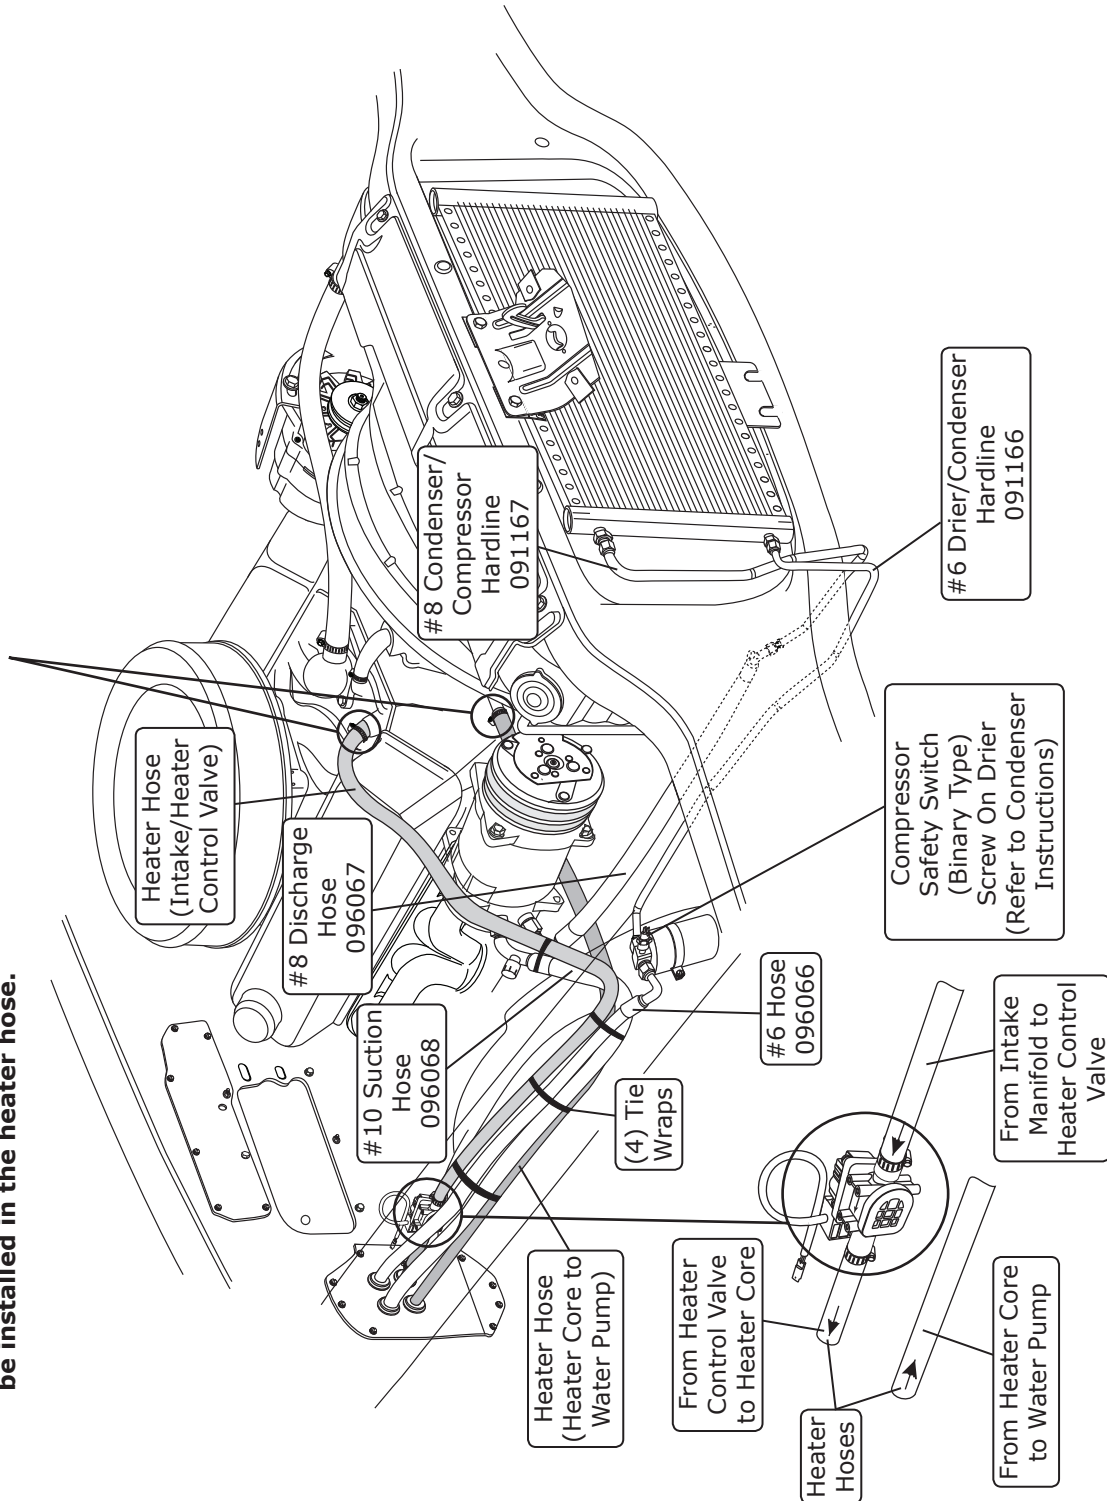

Figure 14
1. Locate the #8 compressor A/C hose. Lubricate (2) #8 O-rings (See Figure 13, above) and connect the 90° fitting to the #8 discharge port on the compressor. Then route the 45° fitting with service port to the #8 condenser hardline coming through the core support (See Figure 14, Page 15). Tighten each fitting connection as shown in Figure 13, above.
2. Locate the #10 compressor A/C hose. Lubricate (2) #10 O-rings (See Figure 13, above) and connect the 45° fitting with service port to the #10 suction port on the compressor. Then route the 90° fitting to the #10 fitting on the evaporator (See Figure 10, Page 13, and Figure 14, Page 15). Tighten each fitting connection as shown in Figure 13, above.
3. Locate the #6 evaporator A/C hose. Lubricate (2) #6 O-rings (See Figure 13, above) and connect the 90° fitting to the drier. Then route the 90° fitting to the #6 fitting on the evaporator (See Figure 10, Page 13, and Figure 14, Page 15). Tighten each fitting connection as shown in Figure 13, above.
1. Route a piece of heater hose from the water pump to the left heater core fitting as shown in Figure 9, Page 12, and Figure 14, below. Secure using hose clamps.
2. Route a piece of heater hose from the intake to the heater control valve, and from the heater control valve to the right heater core fitting as shown in Figure 9, Page 12, and Figure 14, below. **NOTE: Install the heater control valve in line with the intake manifold (pressure side) heater hose, and secure using hose clamps. Also note proper flow direction.**